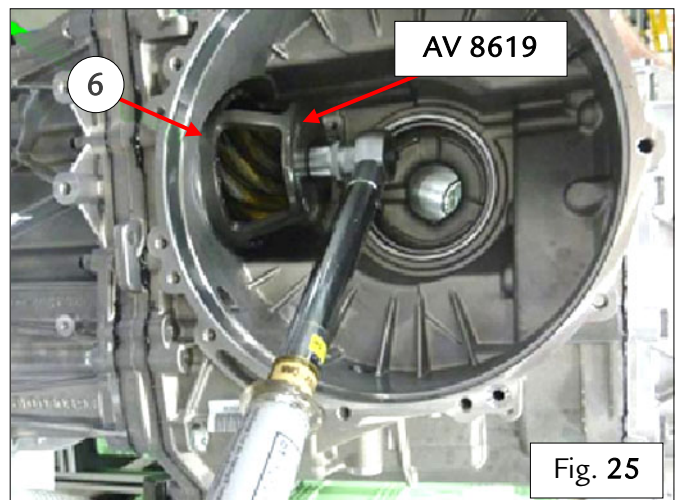

Fig. 25
- Using the tool 95978619 (AV 8619), remove the ring nut (6) fastening the plate to the differential housing – Fig. 25.